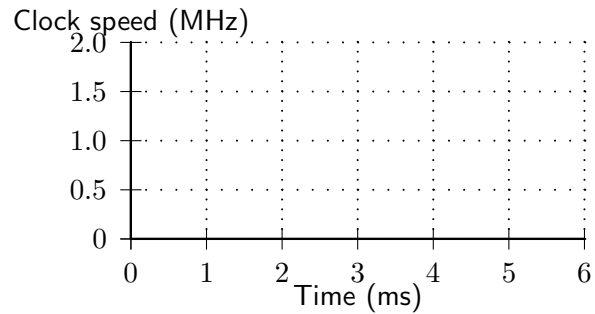

Abbildung 7: Online YDS schedule for Aufgabe 3.1 (b)
- (b) (8 Punkte) For the same set of tasks, derive the *online* YDS schedule. Plot the schedule in the timeline provided. Plot also the energy left in the battery vs. time in the graph provided. Please use Figures 7 and 8. Is this a valid schedule?